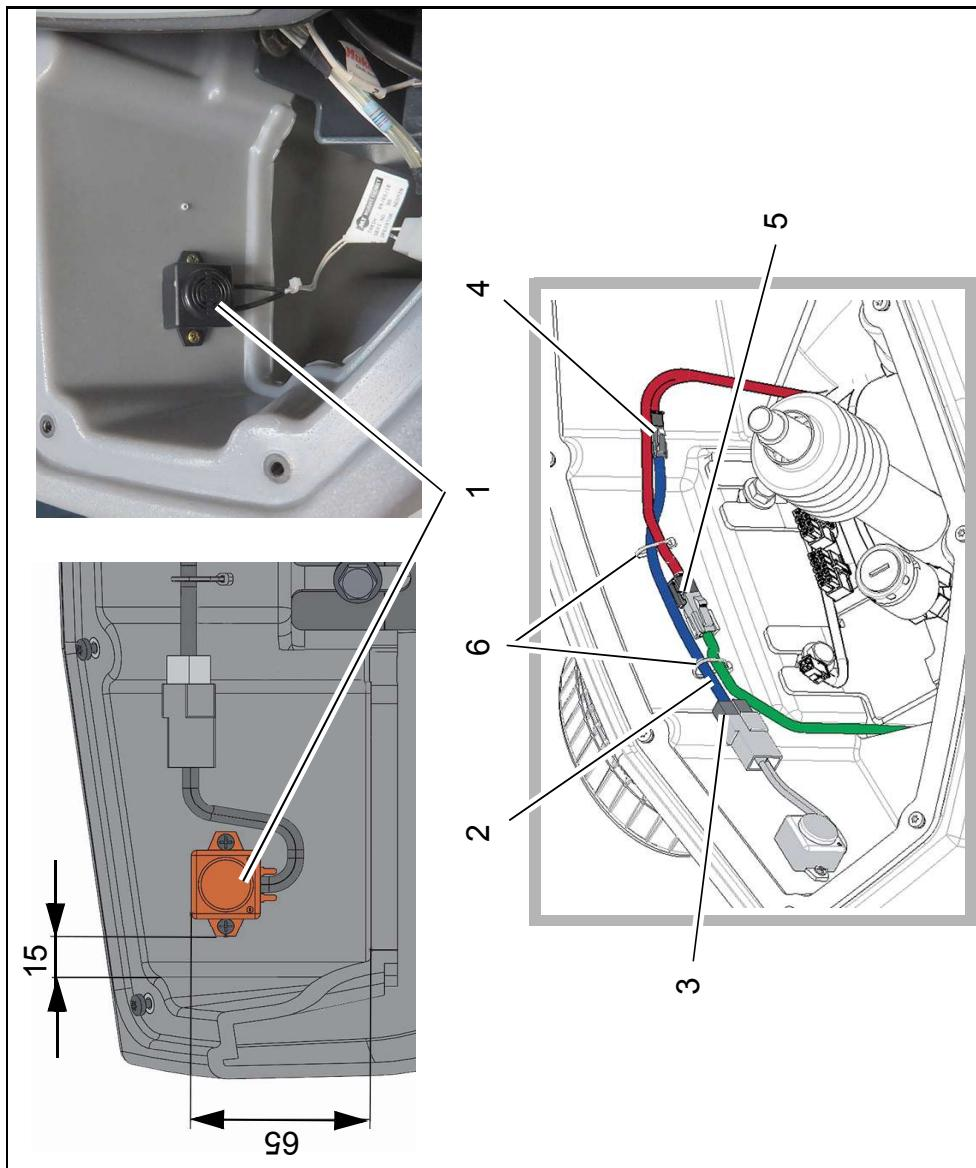

Fig. 2
2. Fix the signal transmitter (Fig. 2/1) to the inside of the steering column with the two self-tapping screws.
- Place the cable harness W69 (Fig. 2/2) in the steering tower as shown.
- signal transmitter P03 (Fig. 2/3)
- cable harness W3 X24 (Fig. 2/4)
Connect Blue Spot cable to connector X25 of harness W3 (Fig. 2/5).
Secure cable harnesses as shown with cable ties (Fig. 2/6).